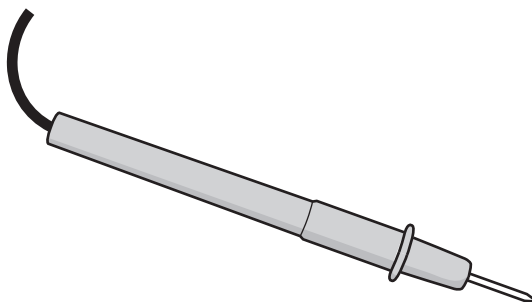

Fig. 4.3
- (ii) Another student suggests replacing crocodile clip **C** with the piece of apparatus shown in Fig. 4.3.